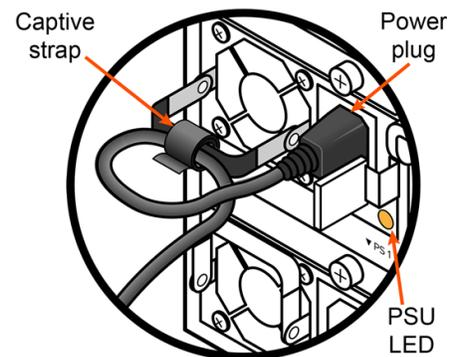

Figure 1-7. Connecting the Power
3. Lower the power supply handle, make a loop in the power cord near the plug, and wrap the captive strap around the loop, securing the cord to the handle. See Figure 1-7.